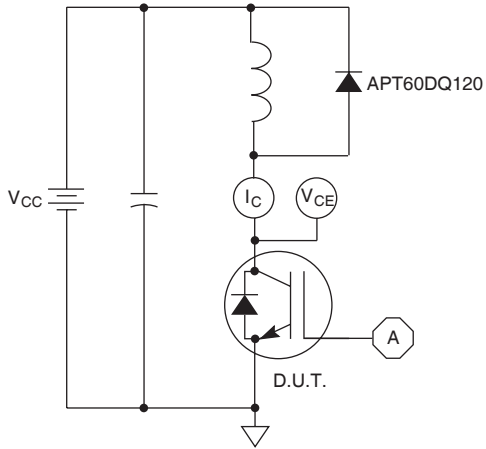

Figure 21, Inductive Switching Test Circuit
① Repetitive Rating: Pulse width limited by maximum junction temperature.
② For Combi devices,  $I_{oes}$  includes both IGBT and FRED leakages
③ See MIL-STD-750 Method 3471.
④  $E_{on1}$  is the clamped inductive turn-on energy of the IGBT only, without the effect of a commutating diode reverse recovery current adding to the IGBT turn-on loss. Tested in inductive switching test circuit shown in figure 21, but with a Silicon Carbide diode.
⑤  $E_{on2}$  is the clamped inductive turn-on energy that includes a commutating diode reverse recovery current in the IGBT turn-on switching loss. (See Figures 21, 22.)
⑥  $E_{off}$  is the clamped inductive turn-off energy measured in accordance with JEDEC standard JESD24-1. (See Figures 21, 23.)
⑦  $R_G$  is external gate resistance, not including  $R_{G(int)}$  nor gate driver impedance. (MIC4452)